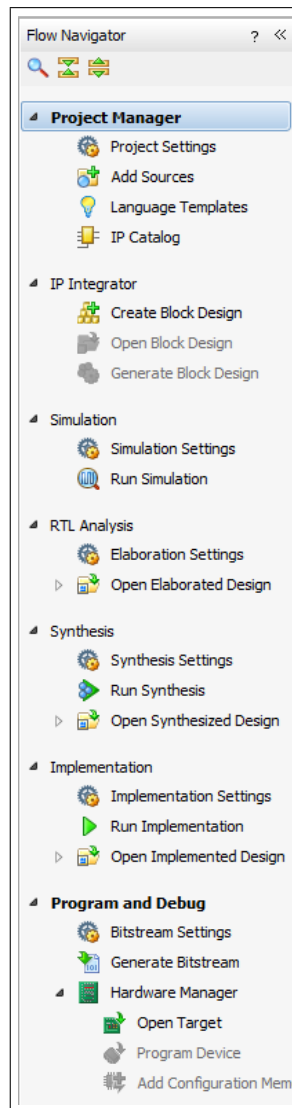

Figure 5.10: Flow Navigator
Now, you'll see the "Project Manager" screen. Pull your source code in */simon* over to the lab computer via flash drive, your H:/ drive, or a Dropbox-like service. In the left-hand "Flow Navigator" menu, shown in Figure 5.10, click the "Add Sources" button. **Please ensure you've uncommented the debounced clock code in *Simon.v* before adding files.**
1. **Synthesis:** Select "Run Synthesis" in the "Flow Navigator", shown in Figure 5.10. If there are errors, resolve them and try again. If Synthesis is successful, a window will appear. From here, you will choose to "Run Implementation".